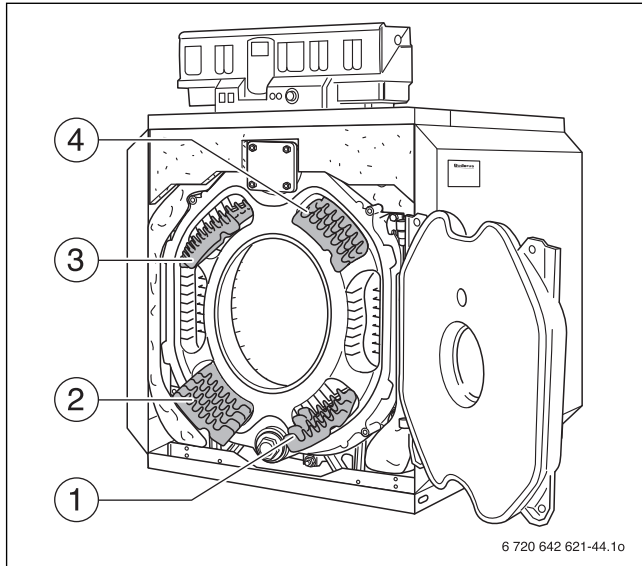

Fig. 61 Flue gas baffles, removing
- ▶ Take the flue gas baffle plates forwards out of the flue gas passages (Fig. 61, [1 – 4]).